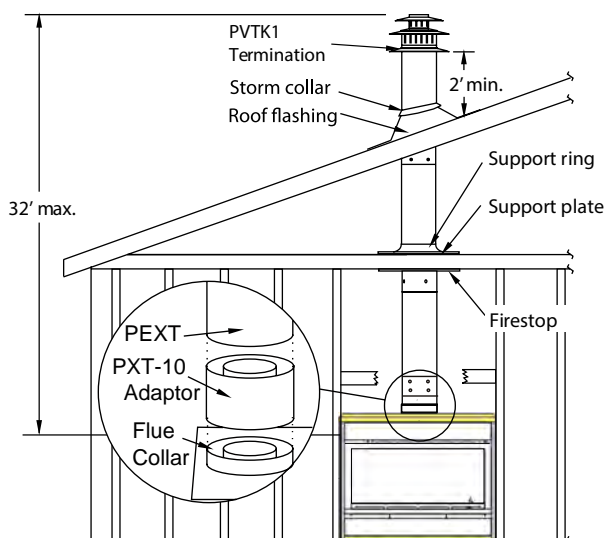

Figure 9. Top vent, Roof mounted termination with no offset in vent run.
- The Vertical termination must be a minimum 2' higher than where the termination exits the roofing materials, (asphalt shingles, cedar shakes, etc). This distance should be measured from the high side of the roof slope where the flue flashing intersects the roofing materials. (see Figures 9 to 9c).